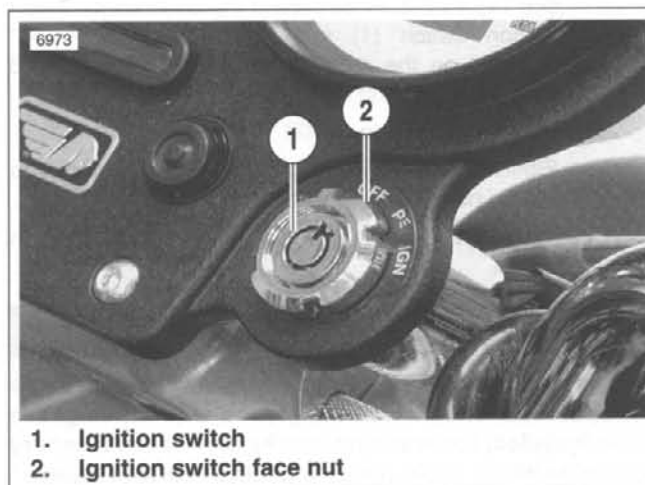
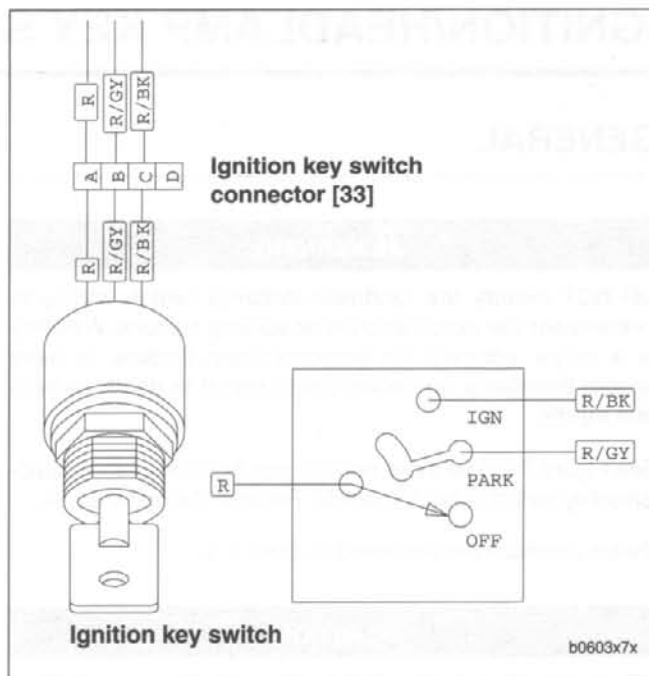

Figure 7-2. Ignition/Headlamp Key Switch
Figure 7-3. Ignition Key Switch Wiring
See Figure 7-2. The three-position combination ignition/headlamp key switch is not repairable. Replace the unit if it fails.
4. See Figure 7-2. Remove ignition switch face nut (2). Remove ignition switch (1) from behind dash panel.
- a. See Figure 7-2. From behind the dash panel, insert ignition switch (1) into hole. The word "TOP" stamped on the switch body should face upward toward the lettering on the switch position decal.
- b. Loosely install face nut (2).
2. See Figure 7-3. Attach ignition key switch connector to main wiring harness.
3. See Figure 7-2. Tighten face nut to secure switch within dash panel.